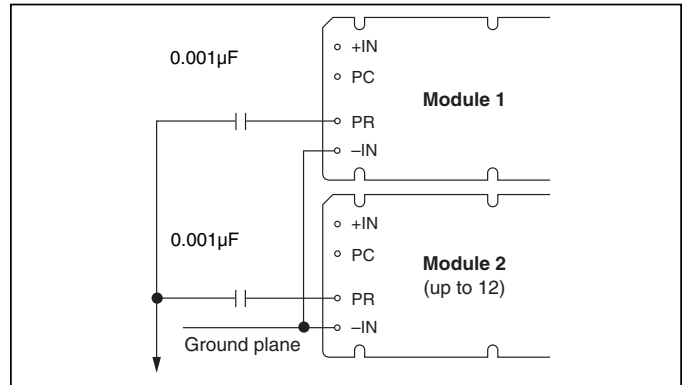

Figure 10 — AC coupled single-wire interface.
**AC coupled single-wire interface.** All PR pins are connected to a single communication bus through 0.001  $\mu\text{F}$  (500 V) capacitors. This interface supports current sharing and is fault tolerant except for the communication bus. See Figure 10.